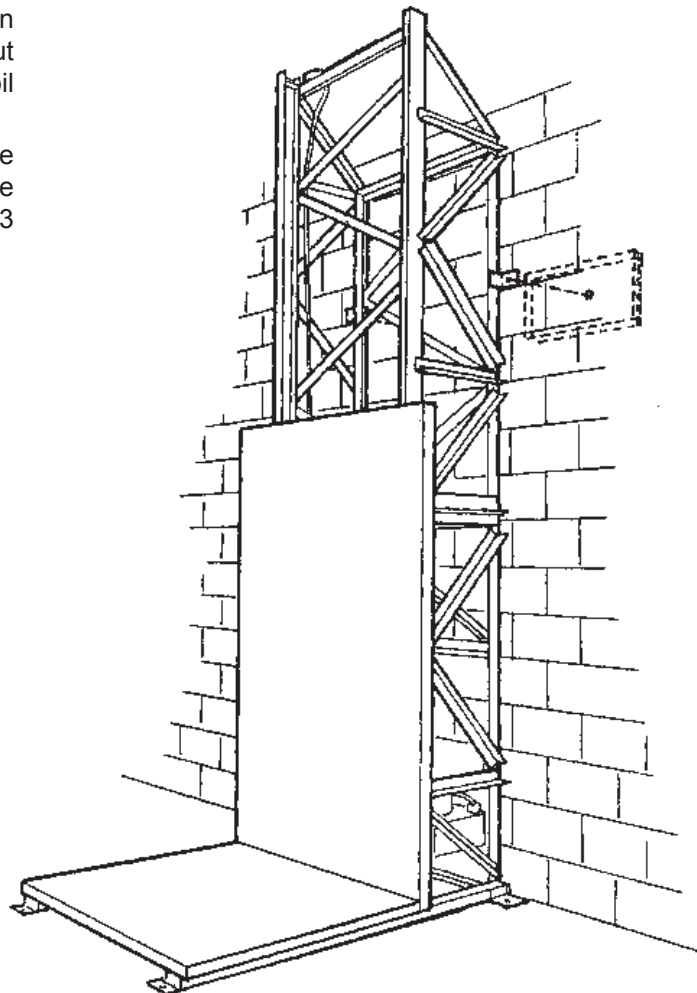

Fig. 2-4 – Bracing, Single-Mast Unit (Back to Wall)
6. Make up one or more braces. See Fig. 2-4 or 2-5. Always place one brace near the top of the mast. Make the braces of 2" x 2" x 1/4" angle iron. Find locations on the mast where the braces will be opposite floor beams or other strong parts of the building structure. If necessary, reinforce the wall